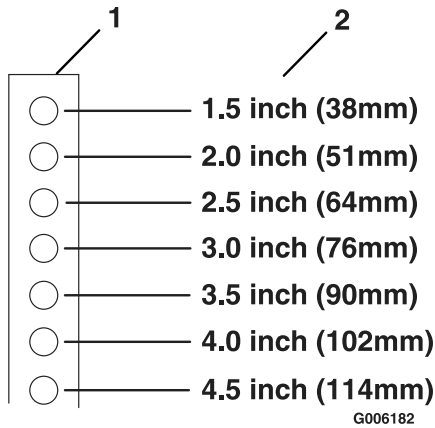

Figure 6
7. Install hairpin clips in the holes for the desired cutting height. See Figure 6.
- A. The front and rear hairpins are in the same holes with the proper spacers under the hair pins. See Figure 6.